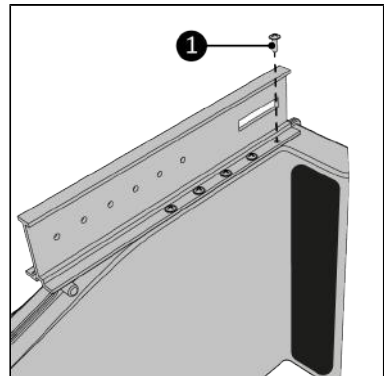

Figure 79.
6. Screw the main rail to the Way-out using the ten 3,5 x 10 mm screws (Figure 79, pos. 1). Make sure all screw holes match up.